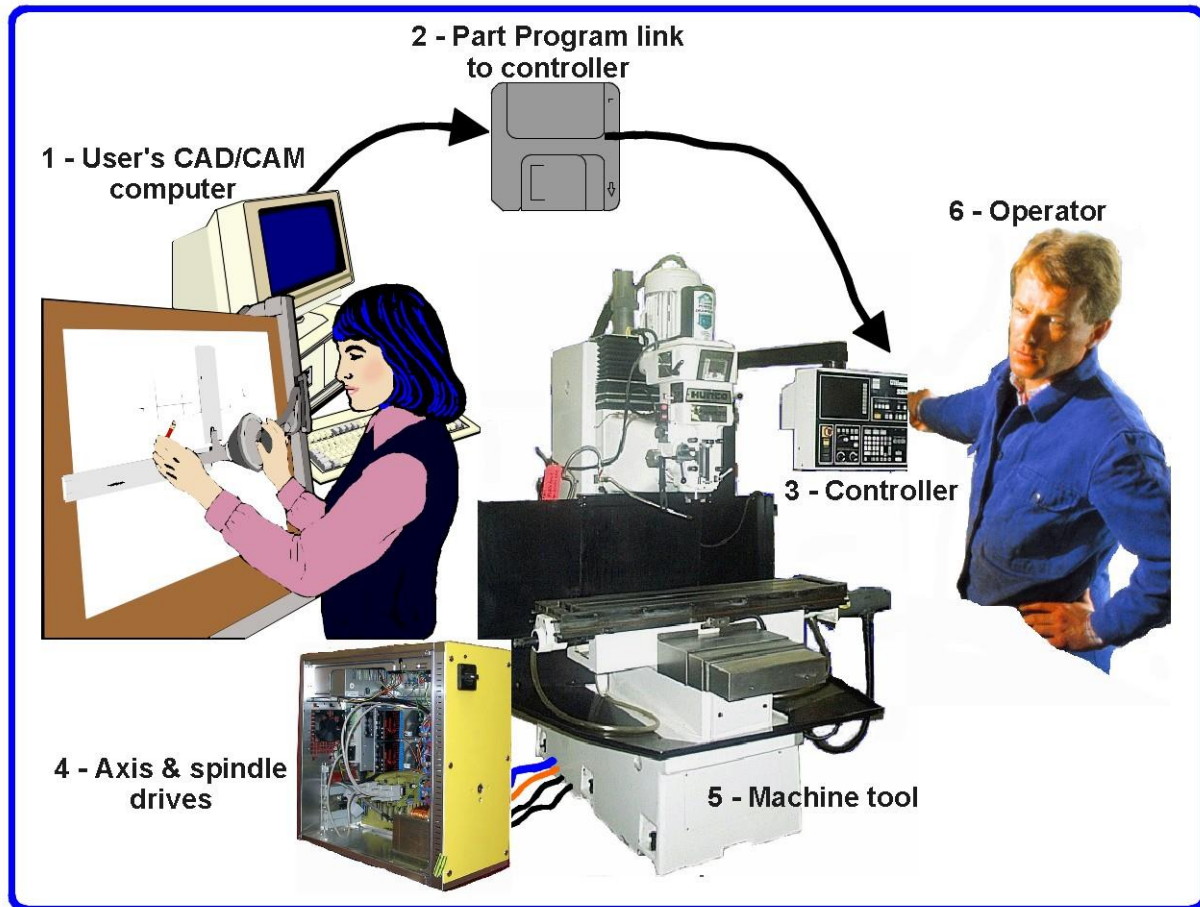

Figure 5-1 MAIN PARTS OF A CNC SYSTEM
The main components of a CNC system are shown in Figure 5-1. These are:
Mach3 is a software package that runs on a PC and turns it into a very powerful and economical Machine Controller to replace (3) Controller (Figure 5-1). Mach3 and its parallel port driver communicate with the Pulsar Mill's hardware through a parallel (printer) port connected to the optional built in PC. Mach3 is used to control the Pulsar Mill by generating step pulses and direction signals to perform the steps defined by a G-Code part program and sending them to the parallel port.